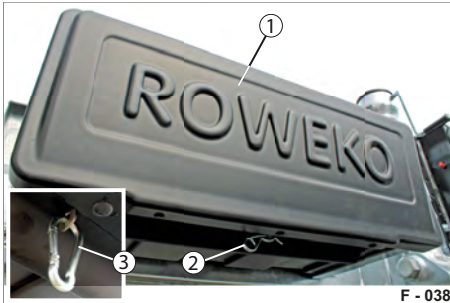

Fig. 65 Plastic box, closed
- ▶ Secure the lid with a spring pin (Fig. 65/2) or karabiner or padlock (Fig. 65/ 3).